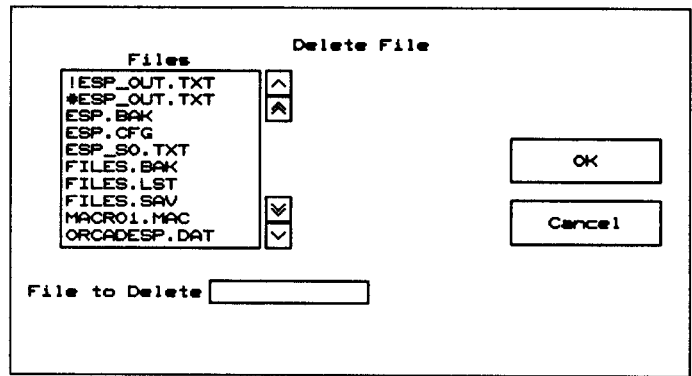

Figure 2-22. Delete File window.
1. Select **Delete File**. The window shown in figure 2-22 displays.